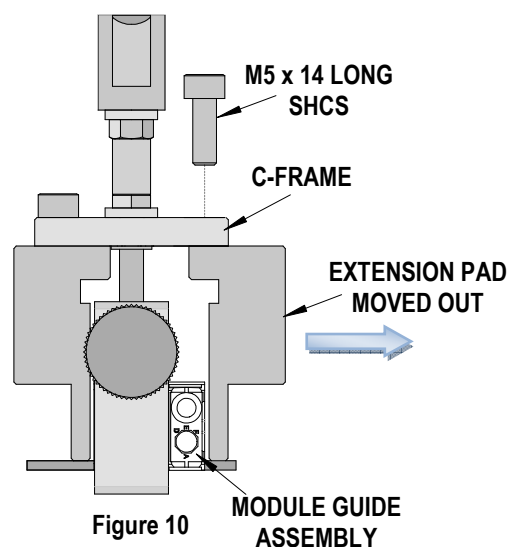

Figure 10
2. Move the extension pad out on this side. See Figure 10.